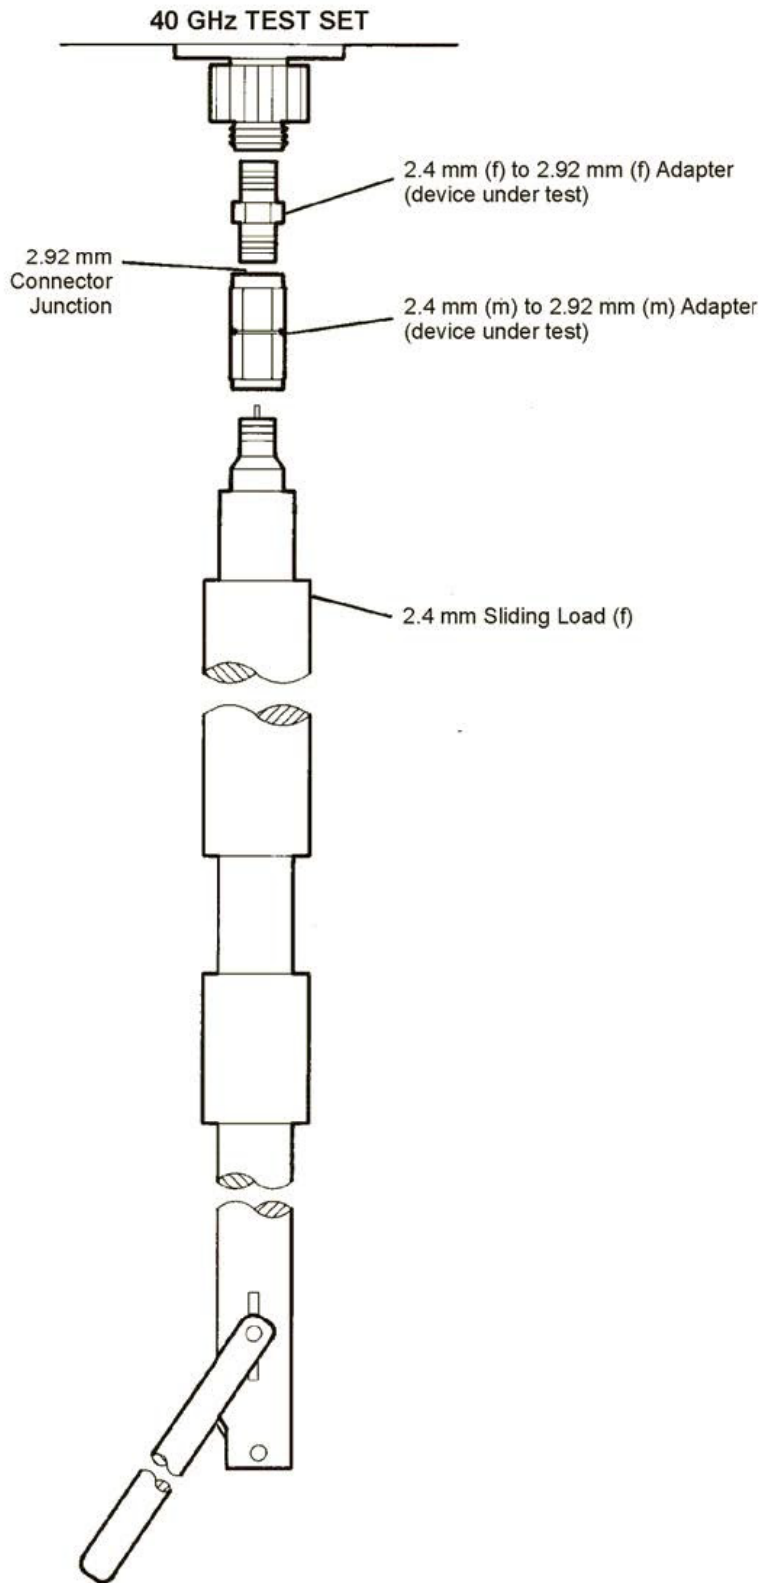

Figure 3-7 2.4 mm to 2.92 mm adapter to sliding load
- 4** Connect the 2.4 mm lowband load -f- to the end of the adapter connected in step 3. The measured return loss should be > 28 dB from 45 MHz to 4 GHz. Refer to Figure 3-7 for the following step: